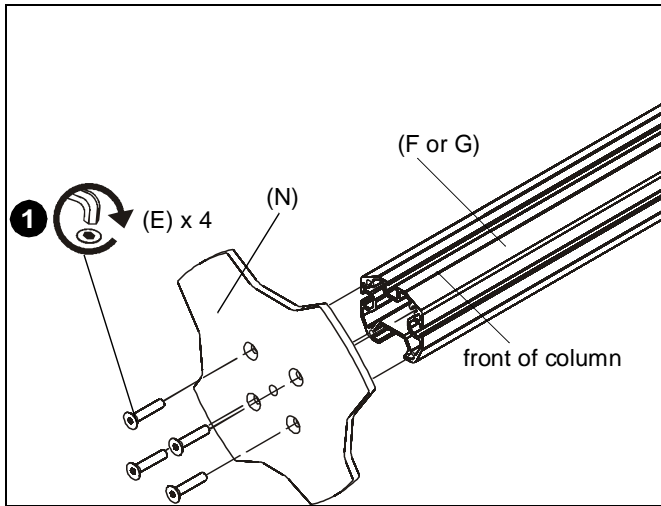

Figure 1
1. Use four 1/4-20 x 1 1/4" flat head cap screws (E) to secure grommet plate (N) to column (F or G). Make sure longer legs of grommet plate are aligned with the front of column. (See Figure 1)